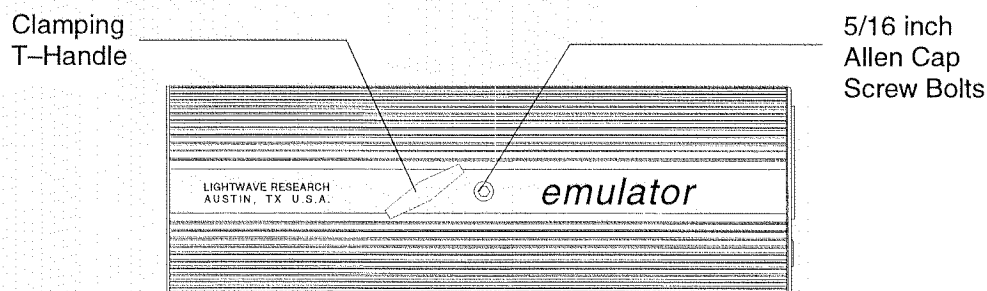

Figure 2.3. emulator Fixture Shipping Configuration
**Note:** The factory installs the two 5/16 inch allen cap screw bolts and the two clamping T-handles. You will need to remove them in order to install the yoke. Refer to Figure 2.3.